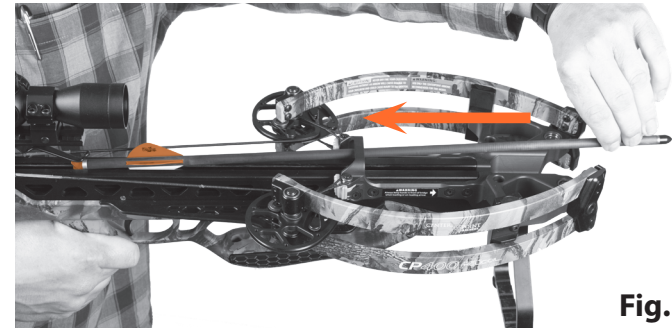

Fig. 22
5. Grip the arrow near its point on the opposite end to the fletching. The crossbow may be loaded by keeping all hands and body parts out of the path of the bowstring and in the safe loading area (Fig. 22). Keep your hands, fingers and all other
6. Slide the CP400 Select arrow back to the trigger assembly, under the arrow retention spring, until the ½ moonnock rests fully on the string (Fig. 22).